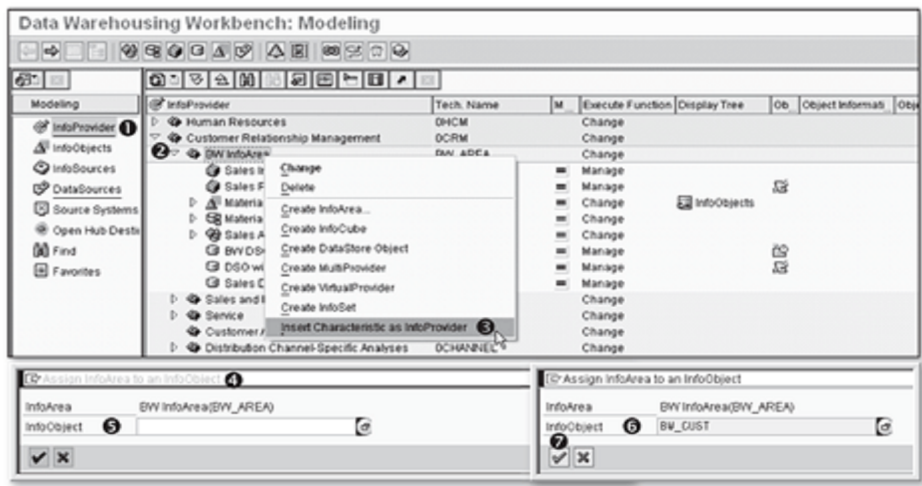
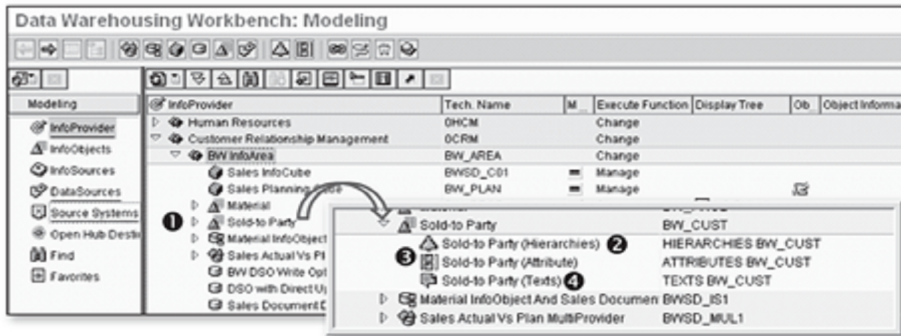

Figure 7.19 Inserting InfoObject as InfoProvider
Figure 7.20 InfoObjects Available in InfoProvider Tree
First, select the InfoProvider under Modeling, as shown in ❶ of Figure 7.19. Select InfoArea BW_AREA (❷), open the context menu, and select Insert Characteristics as InfoProvider (❸). A pop-up box appears (❹) with input box for entering the name of the InfoObject (❺)
Enter the technical name of the InfoObject, BW_CUST (❻ of Figure 7.19), and click the Continue icon. The result of this action is shown in Figure 7.20; the InfoObject
is available under the InfoProvider tree in InfoArea BW_AREA (❶ of Figure 7.20). Expand the BW_CUST (text description: Sold-To Party) tree. This action shows three InfoProviders for BW_CUST: one is for hierarchies (❷), second one for attributes (❸), and the third for texts (❹). Recall that while configuring the InfoObject BW_CUST (in Chapter 3), we configured it to have exactly these InfoProviders.